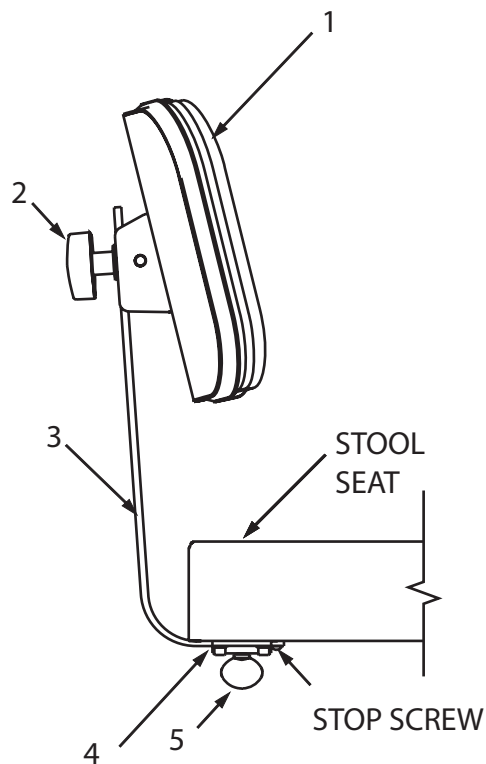

FIGURE 1
2.2.1. To assemble the adjustable tilting backrest, such as **Model 5346**, refer to Figure 1.
2.2.1.3. Screw the handwheel, Item 2, Figure 1, onto the threaded stud in order to secure the position of the backrest.
3.2.1. The back rest typical of **Model 5346** (or shown in Figure 1) can be adjusted vertically and horizontally.
3.2.2. To adjust the back rest vertically, loosen the black hand wheel, (Item 2, Figure 1), move the back rest to the desired position and tighten the hand wheel.
3.2.3. To adjust the back rest horizontally, loosen the thumb screw (Item 5, Figure 1), move the support bar, Item 3, as desired and tighten the thumb screw securely.